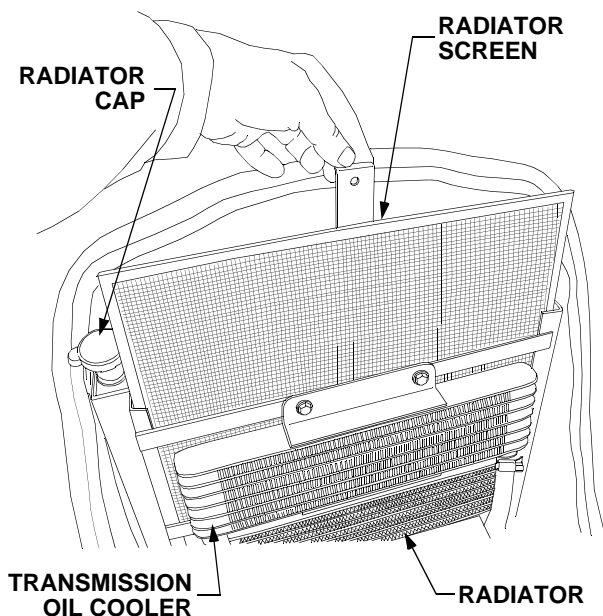

Figure 48
To remove the radiator screen, lift the hood and carefully lift screen by the center tab. Flush the screen with water to clean its surface. Reinsert the screen, making sure that it is in the slots of the radiator frame. See Figure 48.
- Turn the radiator cap counterclockwise to the first stop to release any pressure. Refer to Figure 48.
- Turn the radiator cap counterclockwise to the first stop, then push downward on the cap and turn counterclockwise to remove. Refer to Figure 48.